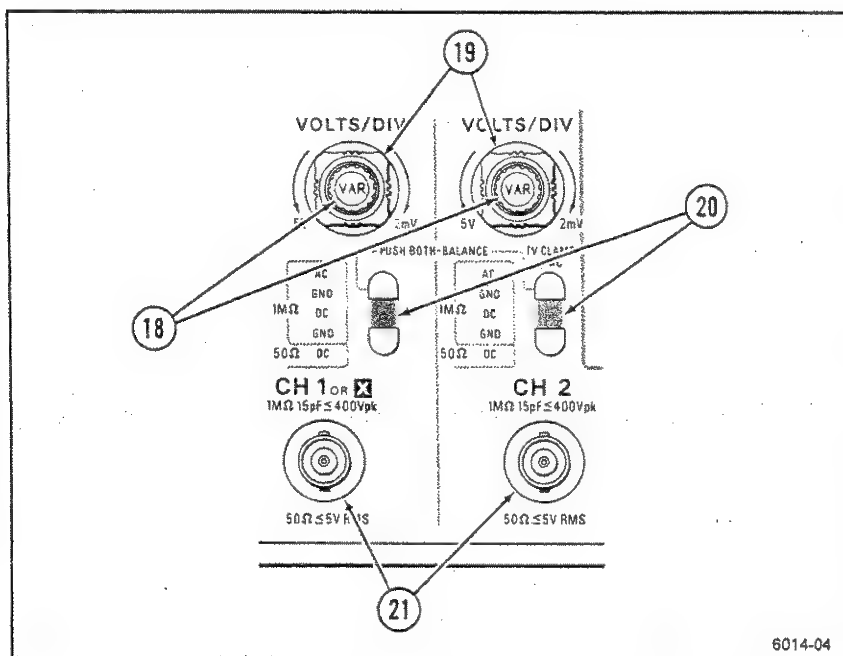

Figure 5-3. Channel 1 and Channel 2 controls and connectors.
Refer to Figure 5-3 for the location of items 18 through 21.